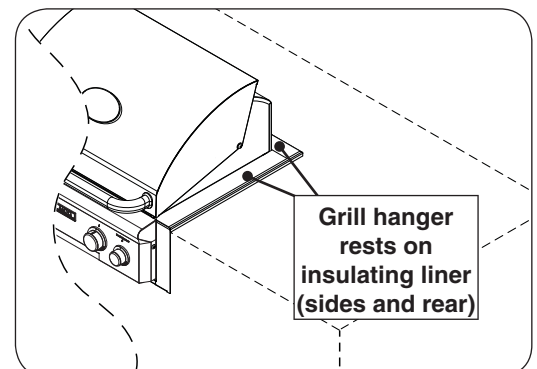

Fig. 3-4 Install grill into liner
**Important:** Do not allow the grill hanger to come in contact with the countertop or any combustible surface (see Fig. 3-4).